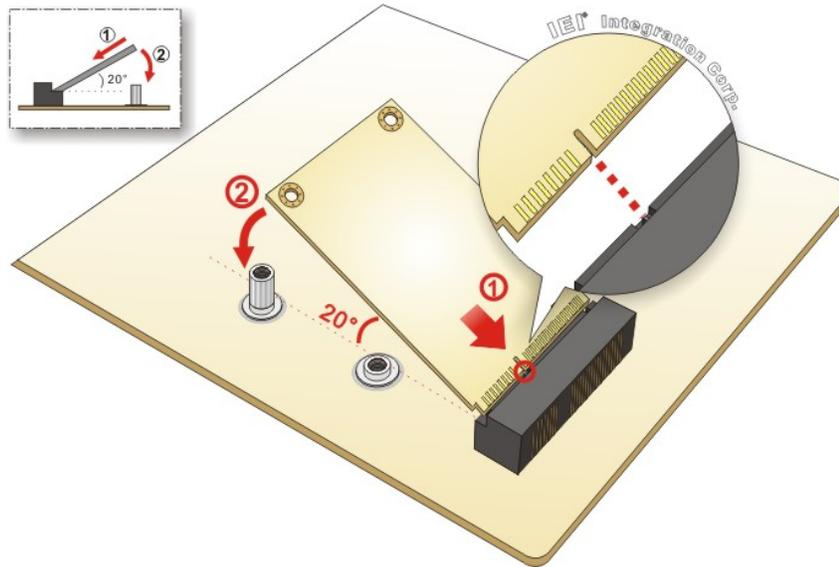

Figure 3-14: Inserting the PCIe Mini Card into the Slot at an Angle
- Step 4:** Insert into the socket at an angle. Line up the notch on the card with the notch on the slot. Slide the PCIe Mini card into the socket at an angle of about 20° (Figure 3-14).